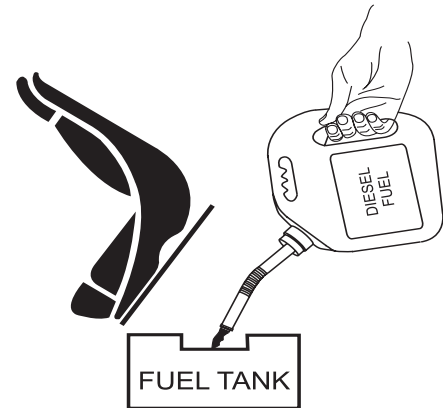

Figure 12. Adding Fuel
5. Pay attention to the fuel tank capacity when replenishing fuel (Figure 12). Refer to the fuel tank capacity listed on page 13, AR-13D Roller Specification Table 1.